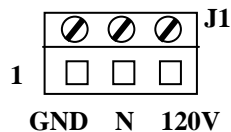

Figure 4-1B. Input Power Connections.
6. Wire the power to J1 input power connector. The connections are Ground (GND), Neutral (N) and 120 VAC 50-60 Hz (120V). See Figure 4-1B. Input Power Connections.